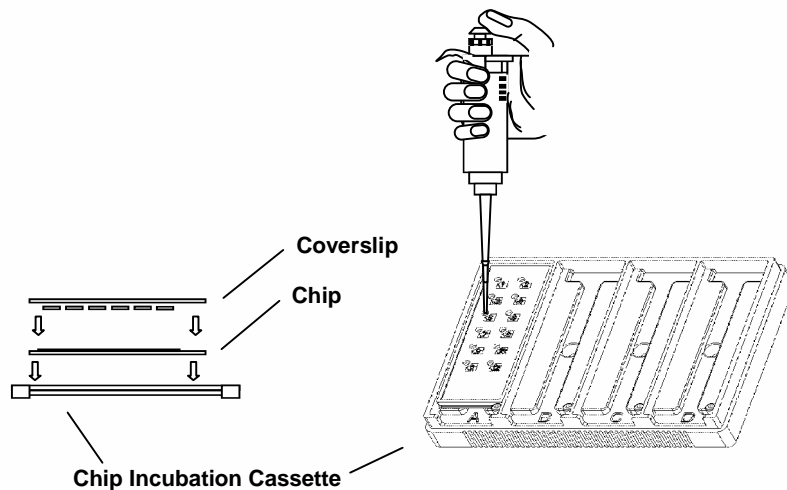

Fig. 12. Schematic diagram of manipulation.
4. Reaction reagent addition: Take up the reagent solution using an appropriate pipette. Put the pipette tip vertically into the solution port at the corner of each block of SmartCover™. When the tip just touches the slide surface, slowly release the solution to fill the space between the protruding features and the slide surface (Fig. 12). Take care to not introduce bubbles. The recommended reagent volumes are listed in Table I.